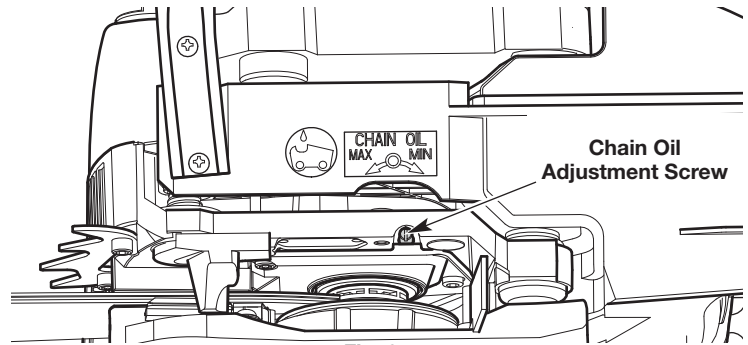

Fig. 24
1. To increase the oil flow, turn the automatic oiler adjustment screw counterclockwise with a flat-head screwdriver (Fig. 24).
2. To decrease the oil flow, turn the automatic oiler adjustment screw clockwise with a flat-head screwdriver (Fig. 24).